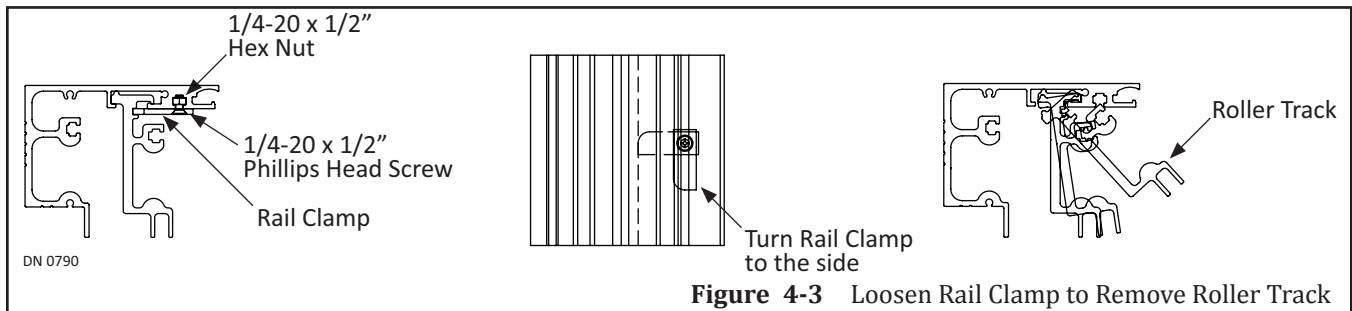

Figure 4-3 Loosen Rail Clamp to Remove Roller Track
1. Go to the Roller Track for the Lead door. With a #2 Phillips Screwdriver, loosen (1) 1/4-20 x 1/2 inch Phillips Head screw used to secure each Rail Clamp. Please see Figure 4-3.
- b. (4) Rail Clamps are typically used to secure the Roller Track to the Header. Locations will vary according to specifications.